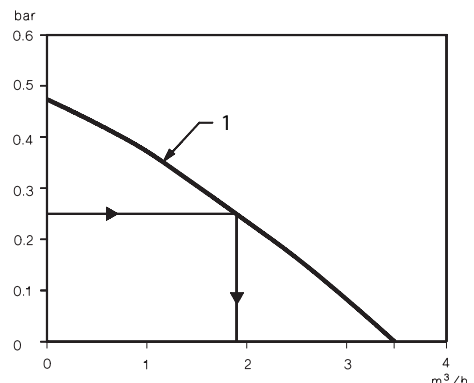

Fig. 4
- The max. permissible differential pressure 0.25 bar across system corresponds to a 1.8 m3/h water volume (fig. 4). At min. load AVDO must ensure 1.8 m3/h pump bypass circulation. In this example AVDO 20 must be used - see "Capacity".- As circulation is not to begin before differential pressure across system has exceeded 0.1 bar, AVDO is set on 0.1 bar - see "Setting".